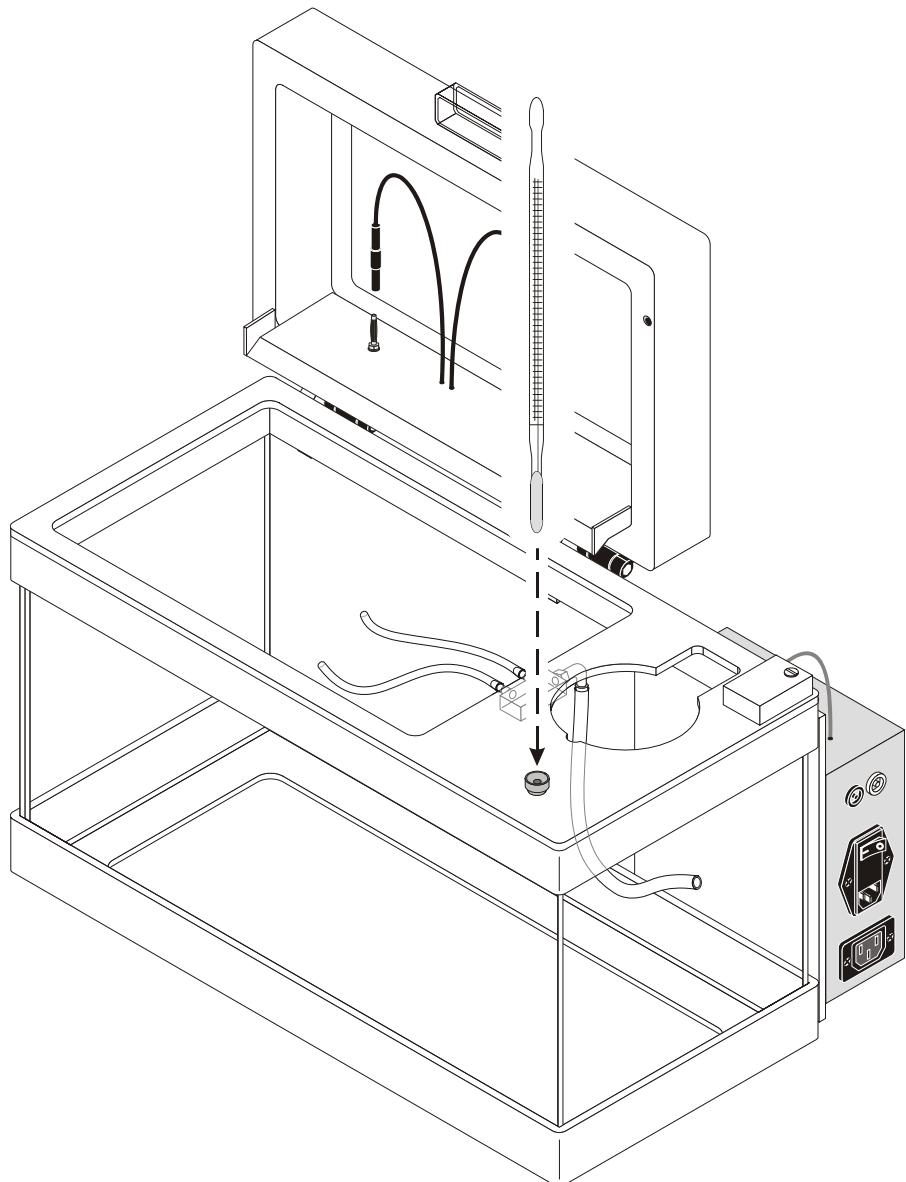

Fig. 3-2
10. Turn Heater/Stirrer "On" and set temperature to 60°C (Figure 3.2)